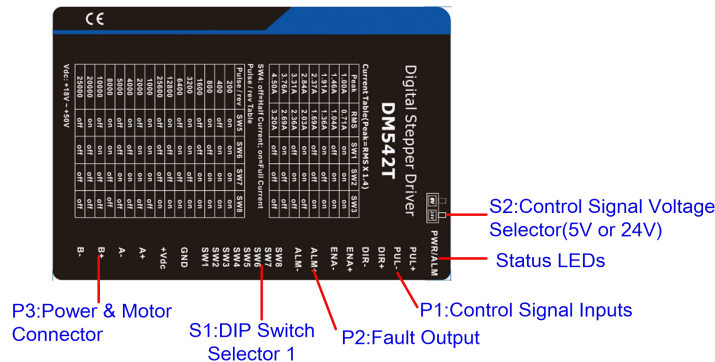

Figure 2 Connectors, DIP switches, and LED locations
PUL+	Pulse and Direction Connection: (1) Optically isolated, high level 4.5-5V or 24V, low voltage 0-0.5V (2) Maximum 200 KHz input frequency (3) The width of PUL signal is at least 2.5 $\mu$ s, duty cycle is recommended 50% (4) DIR signal requires advance PUL signal minimum 5 $\mu$ s in single pulse mode (5) The factory setting of control signal voltage is 24V, must need to set S2 (figure 2) if it is 5V
The DM542T(V4.0) can accept differential or single-ended control signals (pulse, direction, and enable) in open-collector or PNP connection through the P1 connector (figure 2). It is recommended to add an EMI line filter between the power supply and the drive to increase noise immunity for the drive in interference environments.
- (1) ENA signal is no-connected as default;
- (2) Control signal amplitude is 24 V as default. If it is 12 V, please set the S2 (Figure 2) selector switch to 5 V first, then connect 1KΩ resistor; If it is 5V, please set the S2 to 5V.
The second 1-bit selector is located on the top (S2 in figure 2), used to configure the voltage of control signals. For the safety of optically coupled, the factory setting is 24V, which no need to connect 2K resistors like the old drives, making it easier to use. When the voltage of the control signal is 5V, the S2 must be set to 5V, otherwise, the motor won't work.